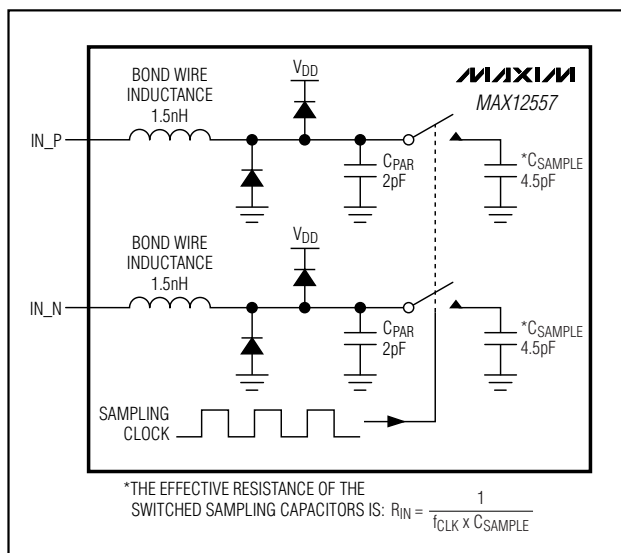
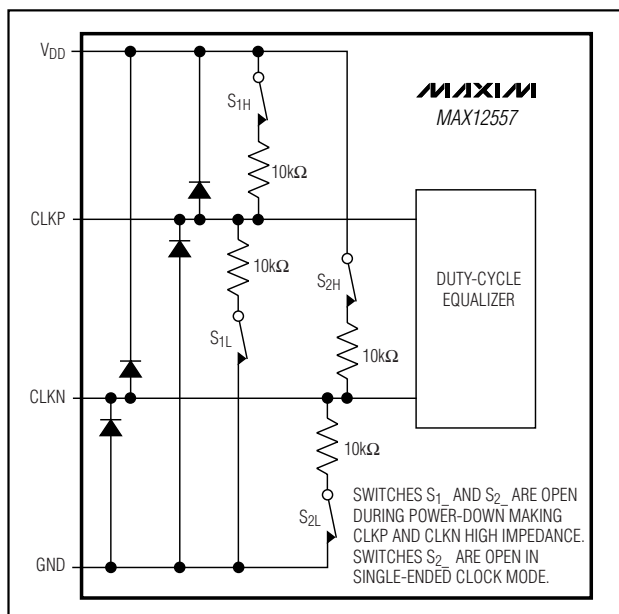

Figure 3. Internal T/H Circuit
Figure 4. Simplified Clock Input Circuit
Figure 3 displays a simplified functional diagram of the input T/H circuit. This input T/H circuit allows for high analog input frequencies of 175MHz and beyond and supports a $V_{DD} / 2$ common-mode input voltage.
The MAX12557 sampling clock controls the switched-capacitor input T/H architecture (Figure 3) allowing the analog input signals to be stored as charge on the sampling capacitors. These switches are closed (track mode) when the sampling clock is high and open (hold mode) when the sampling clock is low (Figure 4). The analog input signal source must be able to provide the dynamic currents necessary to charge and discharge the sampling capacitors. To avoid signal degradation, these capacitors must be charged to one-half LSB accuracy within one-half of a clock cycle. The analog input of the MAX12557 supports differential or single-ended input drive. For optimum performance with differential inputs, balance the input impedance of IN_P and IN_N and set the common-mode voltage to mid-supply ($V_{DD} / 2$). The MAX12557 provides the optimum common-mode voltage of $V_{DD} / 2$ through the COM output when operating in internal reference mode and buffered external reference mode. This COM output voltage can be used to bias the input network as shown in Figures 9, 10, and 11.
The MAX12557 accepts both differential and single-ended clock inputs with a wide 25% to 75% input clock duty cycle. For single-ended clock input operation, connect DIFFCLK/SECLK and CLKN to GND. Apply an external single-ended clock signal to CLKP. To reduce clock jitter, the external single-ended clock must have sharp falling edges. For differential clock input operation, connect DIFFCLK/SECLK to OV_{DD} . Apply an external differential clock signal to CLKP and CLKN. Consider the clock input as an analog input and route it away from any other analog inputs and digital signal lines. CLKP and CLKN enter high impedance when the MAX12557 is powered down (Figure 4).
- 1) INAP/B, INAN/B analog inputs are disconnected from the internal input amplifier (Figure 3).
- 6) CLKP, CLKN clock inputs enter a high-impedance state (Figure 4).